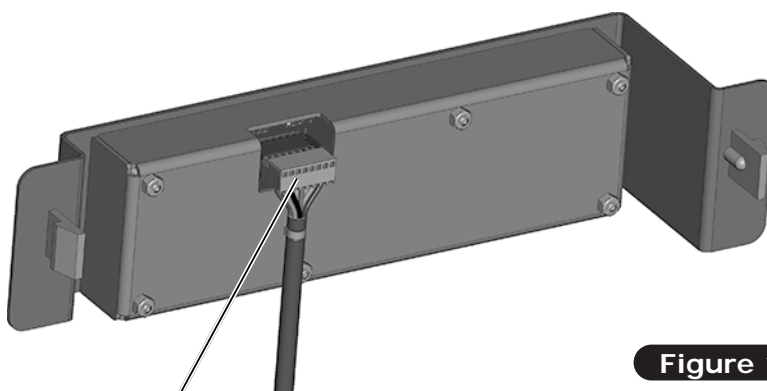

Figure 1
1. Connect the control harness into the control panel (See Figure 1, below).